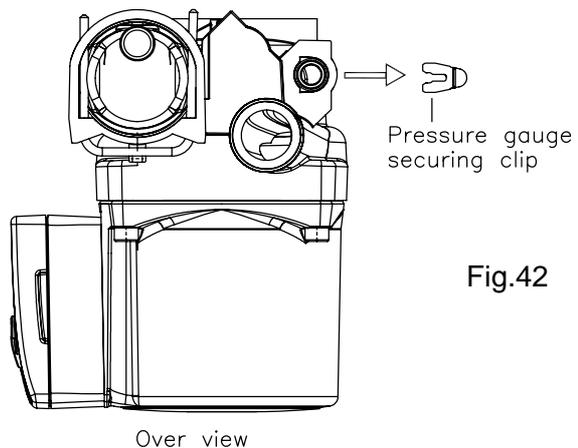

Fig.42
**8.16 TO REMOVE/REPLACE PUMP (Fig.42/43).**